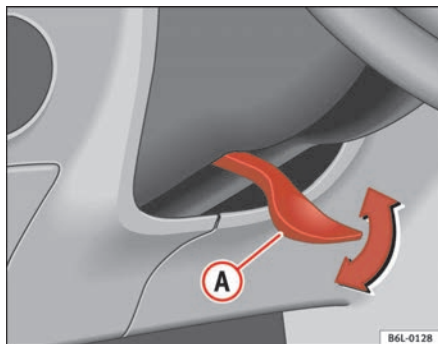

Fig. 93 Adjusting the steering wheel position
- Push the lever under the steering column $\Rightarrow$ fig. 93 down $\Rightarrow$ ⚠.